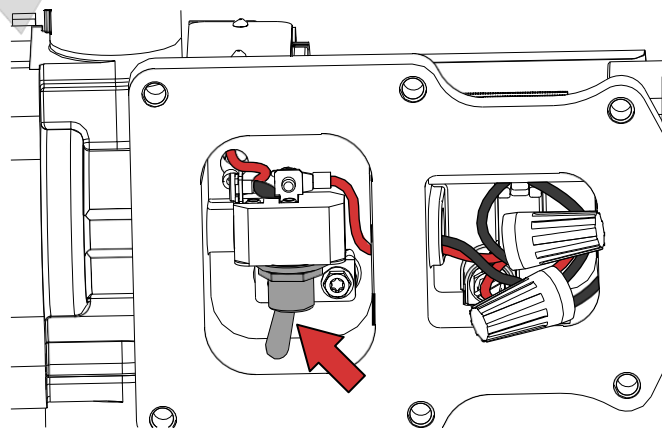

Figure 9
- Switch defective. Remove electrical coverplate and inspect switch (Figure 9). Replace if necessary.